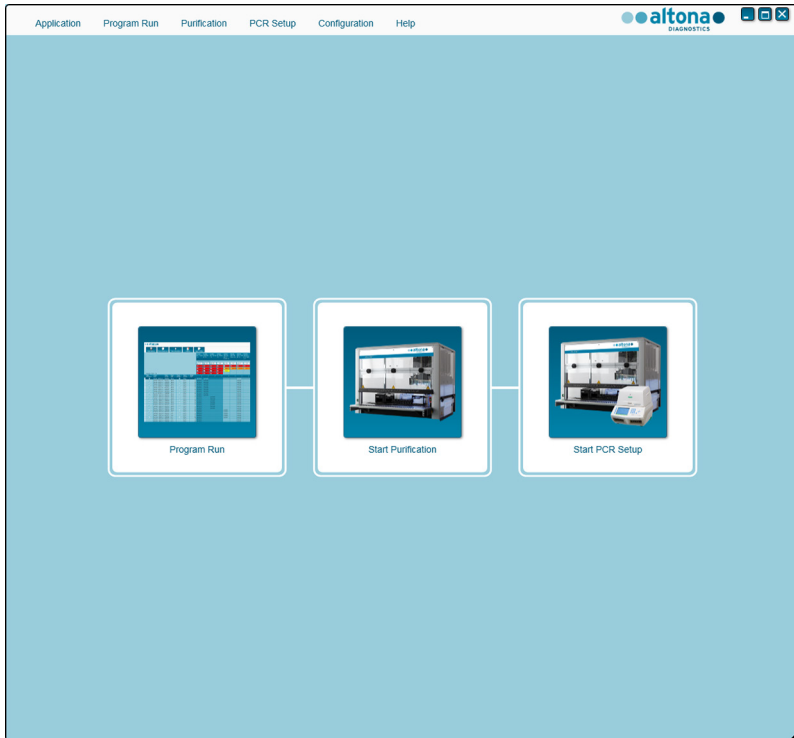

Figure 1: Start Screen of the AltoStar[®] Connect software
The Start Screen of the AltoStar® Connect software is displayed (see Figure 1) showing three buttons representing the AltoStar® Workflow steps to be performed on the AltoStar® AM16:
1. Access the Maintenance Screen by clicking **Application** → **Instrument Maintenance** in the menu bar (see Figure 1).